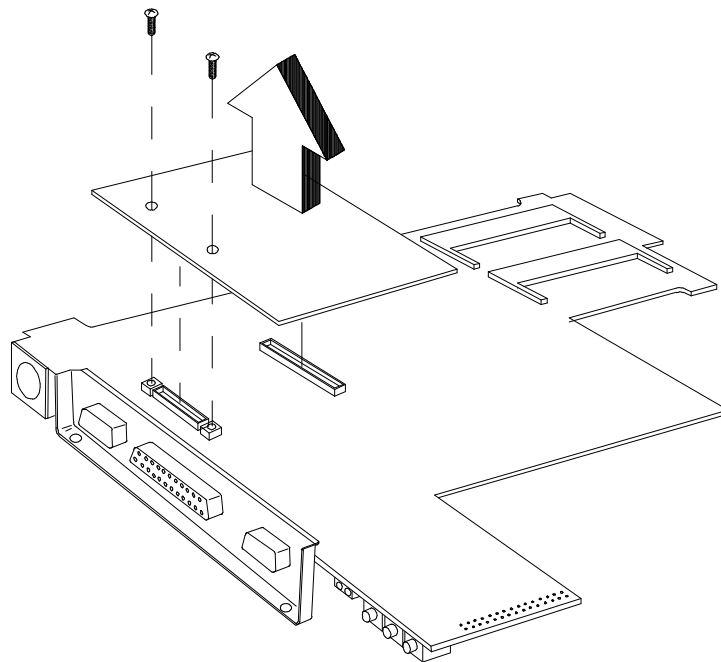

Figure 6-26 Removing/Replacing the VGA Video Board
2. Remove the two screws securing the Video Board to the Motherboard and remove the Video Board (refer to Figure 6-26).